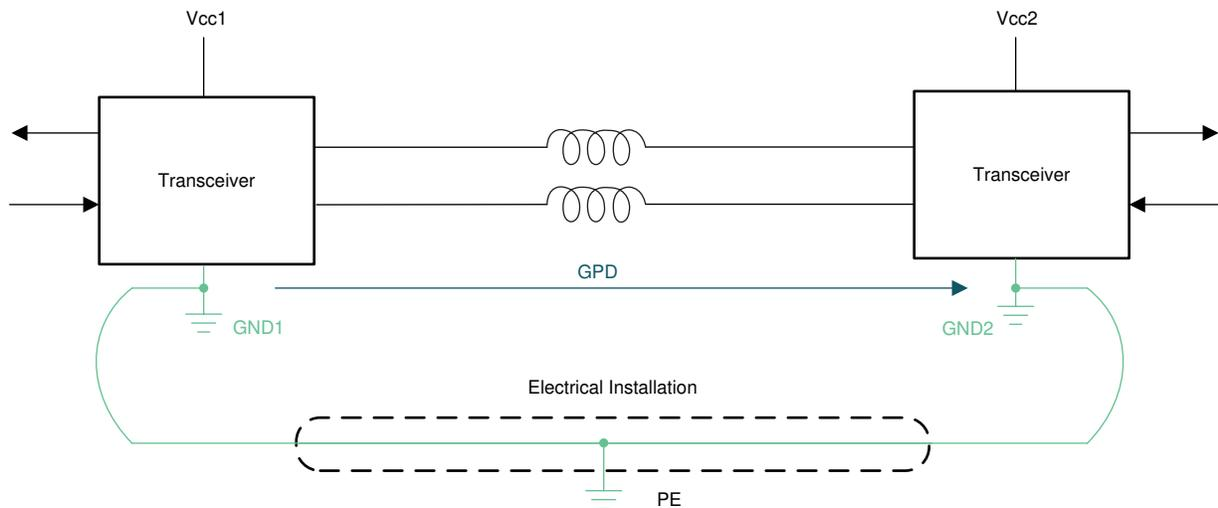

Figure 15. Grounding of two Transceivers
When designing a remote data link, the designer must assume that large ground potential differences may exist. These voltages show as common-mode noise to the transmitter output. Even if the total superimposed signal is within the input common-mode range of the receiver, the local earth ground may not be a reliable path for the return current. In other words, the nodes in a multi-node network have isolated local grounds that are connected through some high-impedance path (Figure 15). To help create stronger current return path, an easy way is to put all transceiver grounds on the same potential by connecting them by a third wire or the shield of the cable. If this method is not practical for the system, a capacitor and a large resistor like 10-M Ω can be applied to connect the transceiver ground with the protective earth (PE). The intention is to create a high-frequency current path via PE, while the effectiveness depends on the application environment.